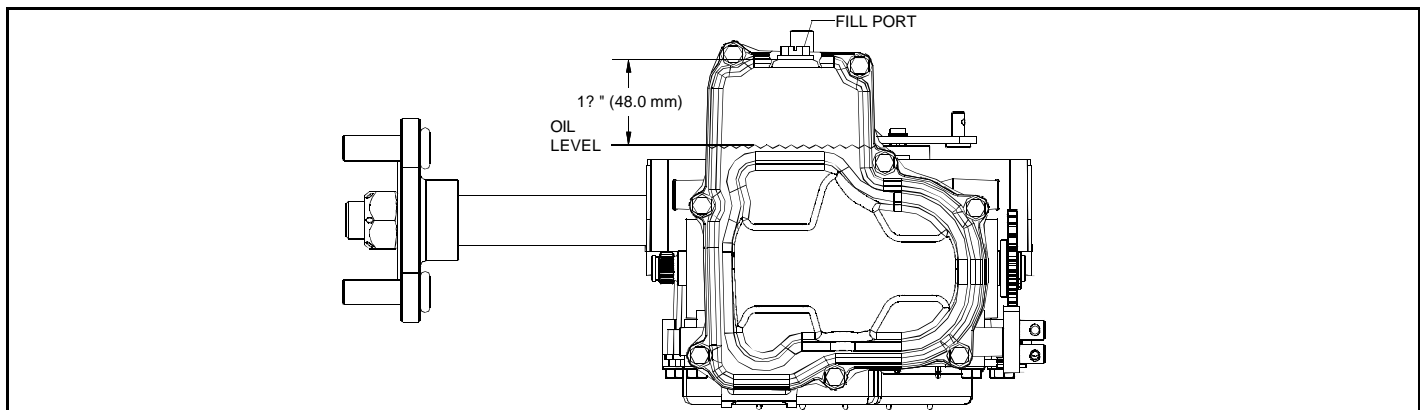

Figure 4. 310-2400 Fluid Level and Fill Port
2. Check oil level in accordance with Figure 4 Page 10.
Certain situations may require additional fluid to be added or even replaced. Refer to Figure 4 for the proper fill port location.
Before starting, make sure the transaxle/transmission is at the proper oil level. If it is not, fill to the specifications outlined on page 10, Figure 4.